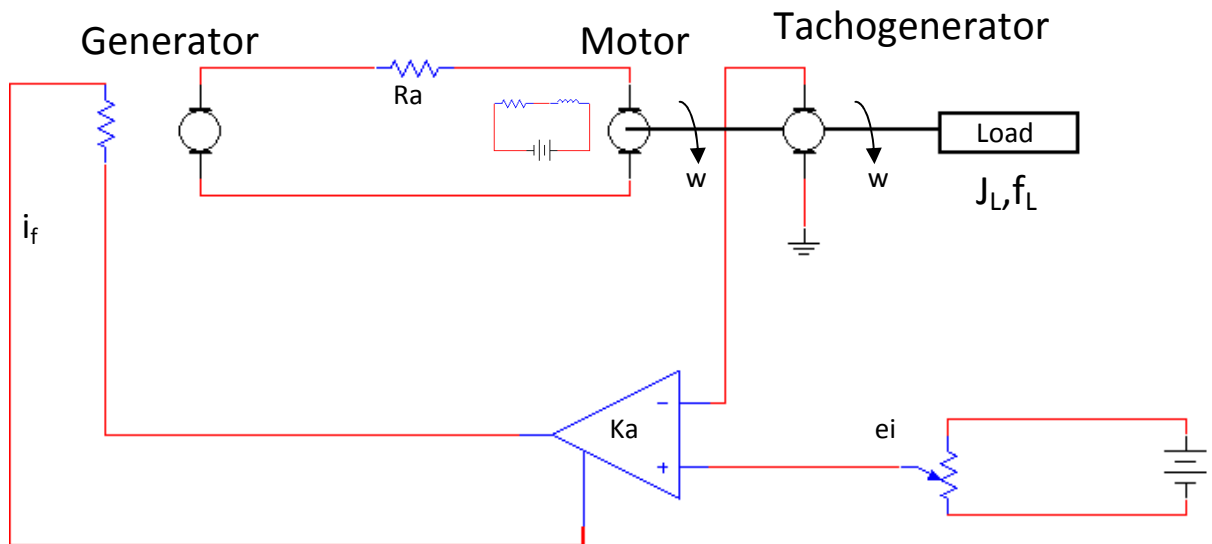

Figure 9
16) A speed control system is shown in Figure 9. A tacho generator is used to give a feedback speed $K_t W$ where K_t (volts/rad/sec) is constant. The amplifier gain is K_A (amp/volt). The generator gain is K_g (volt/amp field). The motor constant K_m (N.m./amp). The inductance is neglected. **Draw a block diagram of this system. Indicate the Transfer function of each block.**